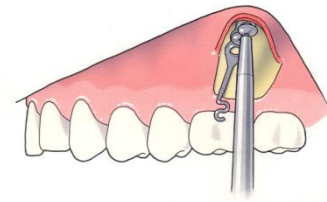

Fig. 3
The anchor plate may be pre-bent carefully to obtain an optimal contact between the plate and the cortical bone. The bending is limited between the upper and lower hole. Insert the first selfdrilling screw (Surgi-Tec recommends 5 mm length, \varnothing 2.0 mm, ref. 70-505S) in the middle hole, but do not tighten this first screw completely in order to allow some rotation of the anchor. Insert the second selfdrilling screw in the upper hole (Surgi-Tec recommends 7 mm length, \varnothing 2.0 mm, ref. 70-507S). Insert the third selfdrilling screw in the lower hole (Surgi-Tec recommends 5 mm length, \varnothing 2.0 mm, ref. 70-505S) (Fig.3).